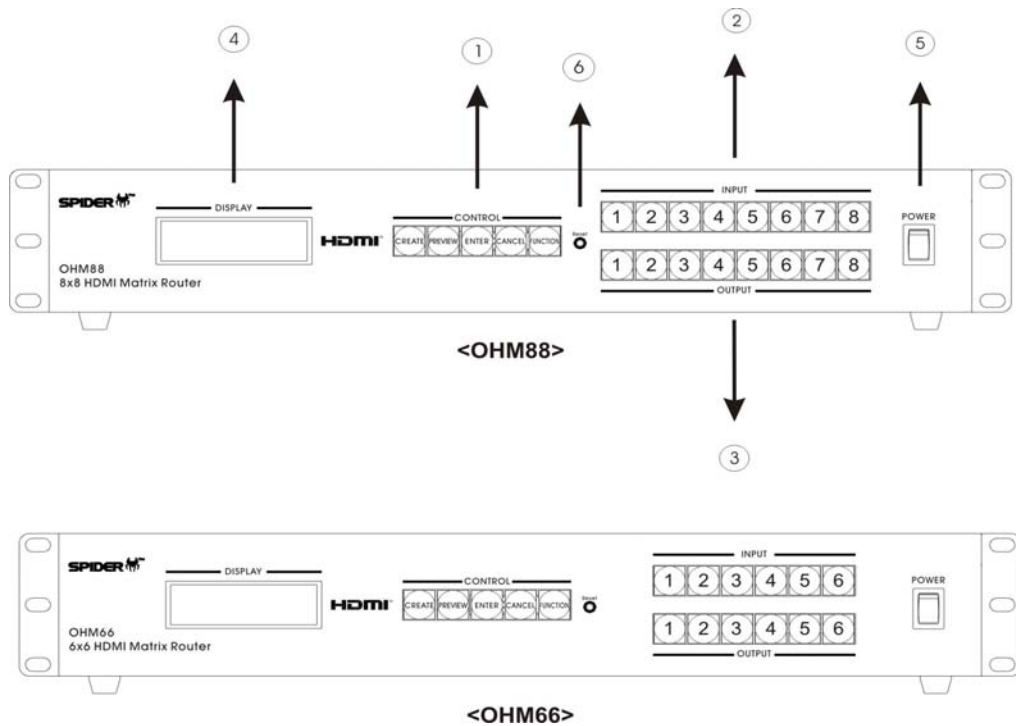

Figure 1-1 Front Panel
- OHM88 chassis is mountable on a 19" standard rack with rack ears. Control keys, Input-Output buttons and the status LCD display, are placed on the front panel as shown in Figure 1-1.
- Control keys: ①
- Eight (8) LED inputs: ②
- Eight (8) LED outputs: ③
- Status display: LCD displays the control status in 20x4 text mode: ④